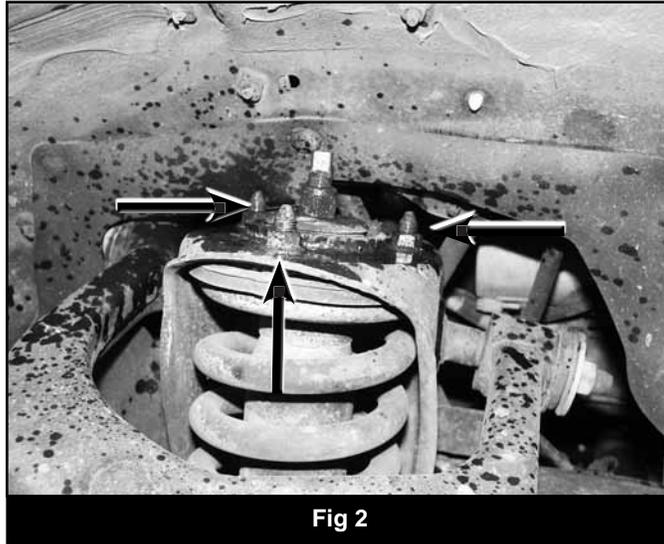

Fig 2
8. Locate the driver's top strut mounting nuts (Fig 2). Remove the three nuts that hold each strut to the frame.